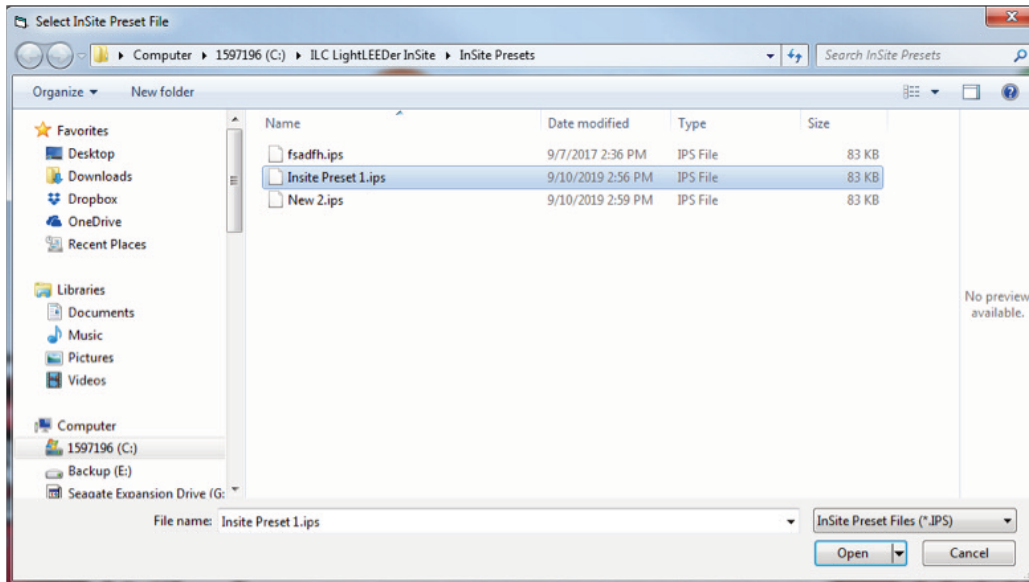

Figure 2.12 Select InSite Preset
- For Activate InSite Preset, press Edit Control. Select the pre-programmed InSite Preset as shown in figure 2.12, and then Open.